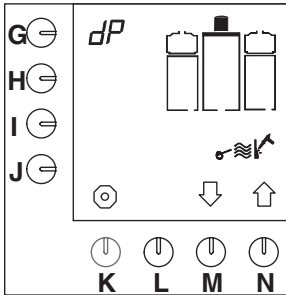

Fig. 18 Starting the descaling programme coffee-making system
- The descaling programme appears on the display (fig.18).
- Hold programming key (G.) down until fig. 18 re-appears on the display.